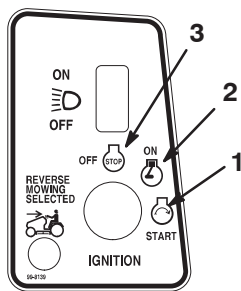

Figure 10
6. Turn the ignition key clockwise and hold it in the Start position (Fig. 10). When the engine starts, release the key.
2. Turn the ignition key to Off and remove the ignition key (Fig. 10).